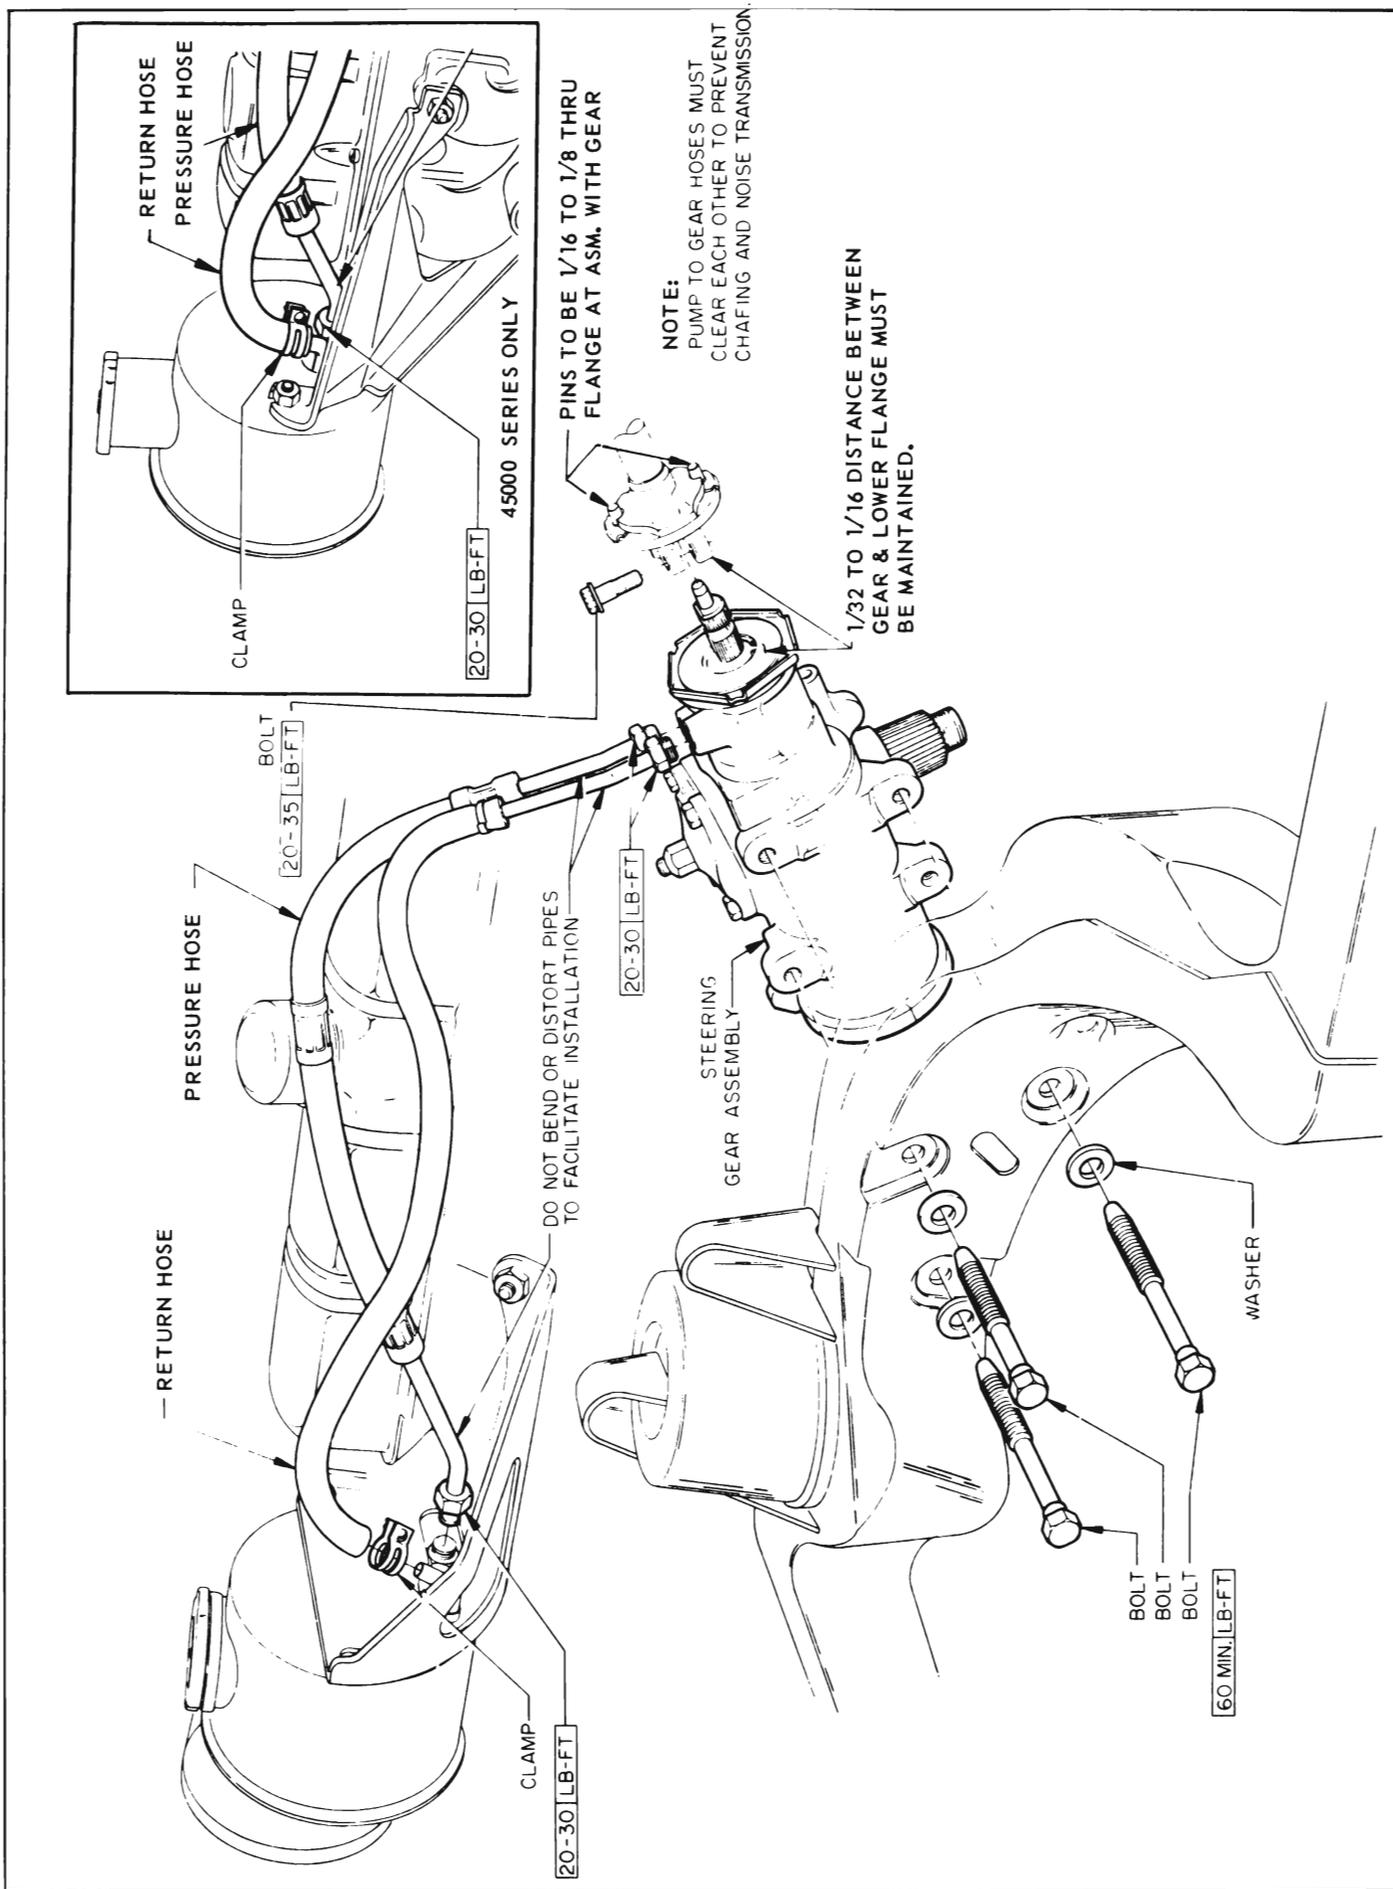

Figure 8-26—Power Steering Installation - 45000, 46000, 48000 Series
3. Remove pinch bolt from coupling lower flange. See Figure 8-26 or 8-27.
1. Install the gear assembly by reversing the procedure for removal. See Figure 8-26 or 8-27 for tightening specifications. Torque pitman nut to 135 ft. lbs. Torque lower coupling pinch bolt to 30 ft. lbs. Be sure there is 1/16" clearance between adjuster plug and coupling.